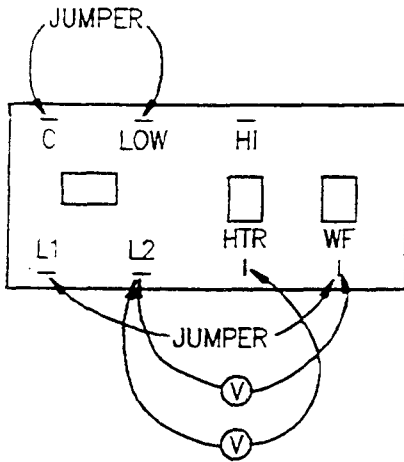

Figure 5-18. Water Level Control Unit
4. Refer to Figure 5-18 and connect the voltmeter across terminals HTR-L2. If the meter reads 0VAC across terminals HTR-L2, continue this procedure with step 5. If the meter reads 120VAC across terminals HTR-L2, perform the following steps.
5. Refer to Figure 5-18 and jumper Control Board terminal LOW to ground and check voltage across terminals HTR-L2. If the meter reads 0VAC across terminals HTR-L2, continue this procedure with step 6. If the meter reads 120 VAC, the Control Board is OK.
- Refer to Figure 5-18 and check voltage across Control Board terminals WF-L2. If the meter reads OVAC across terminals WF-L2, continue this procedure with step 8. If the meter reads 120 VAC across terminals WF-L2, Control Board is OK.
8. Refer to Figure 5-18 and remove HI connection (white/yellow wire) from Control Board. If tank does not fill, continue this procedure with step 9. If tank fills, Control Board is OK.
9. Refer to Figure 5-18 and jumper Control Board terminals WF-L1
10. Refer to Figure 5-18 and jumper Control Board terminal HI to ground. If generator keeps running, remove WF connection (white/blue wire) from control board.